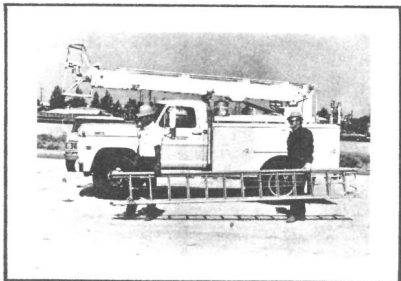

FIGURE 24.
16.02 To pick up a ladder, the two men take positions at opposite ends and, lifting together, lift the ladder as shown in Figure 24. Carry the ladder with the shoes forward.